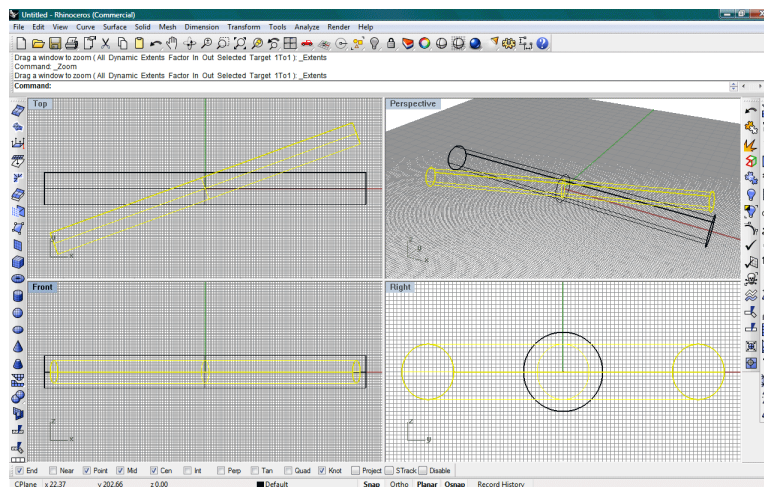

Figure 91: Two intersecting tunnels
42. While the cylinder is still selected, select **Transform|Rotate**. In the **Top** view, click on the **origin** of the coordinate system. Enter **20** followed by **<ENTER>** to complete the rotation of the smaller cylinder by **20°** around the **z-axis**. Right-click on the button marked **Show Objects** to render both cylinders visible (Figure 91).